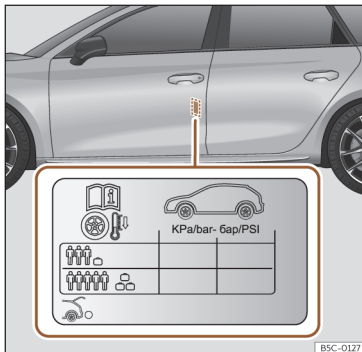

Fig. 231 Location of the tyre pressure sticker.
- Adjust tyre pressure to the load being carried by the vehicle»» **Fig. 231**.
The tyre inflation pressures are listed on a sticker on the rear of the front left door frame»» **Fig. 231**.
The tyre pressure must be adjusted according to the load the vehicle is carrying. If the vehicle is going to carry the maximum load, the tyre pressure should be increased to the maximum value indicated on the sticker »» **Fig. 231**.
In the case of a minimised temporary spare wheel (125/70 R16 or 125/70 R18), inflate to a pressure of 4.2 bar as indicated on the tyre pressure label»» **Fig. 231**.
»» Fig. 231.
- »» Fig. 231.